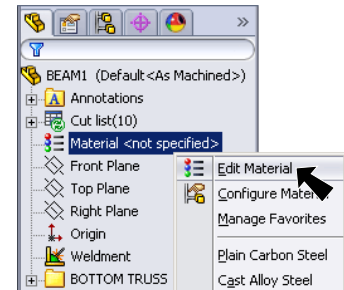

Fig. 31
Step 1. **Right click Material**  in the Feature Manager and click **Edit Material**, **Fig. 31**.